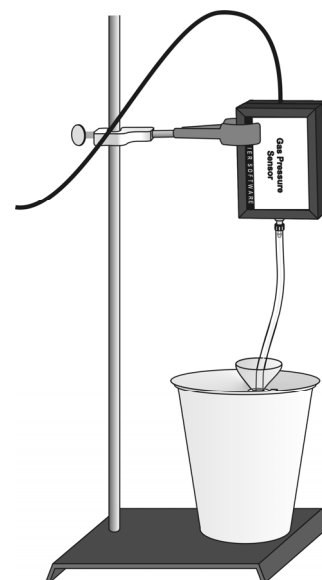

Figure 1
5. Using a ring stand and clamp, mount the pressure sensor above the insulated water container, as in Figure 1. **Note:** Be careful not to get any solution on the sensor.